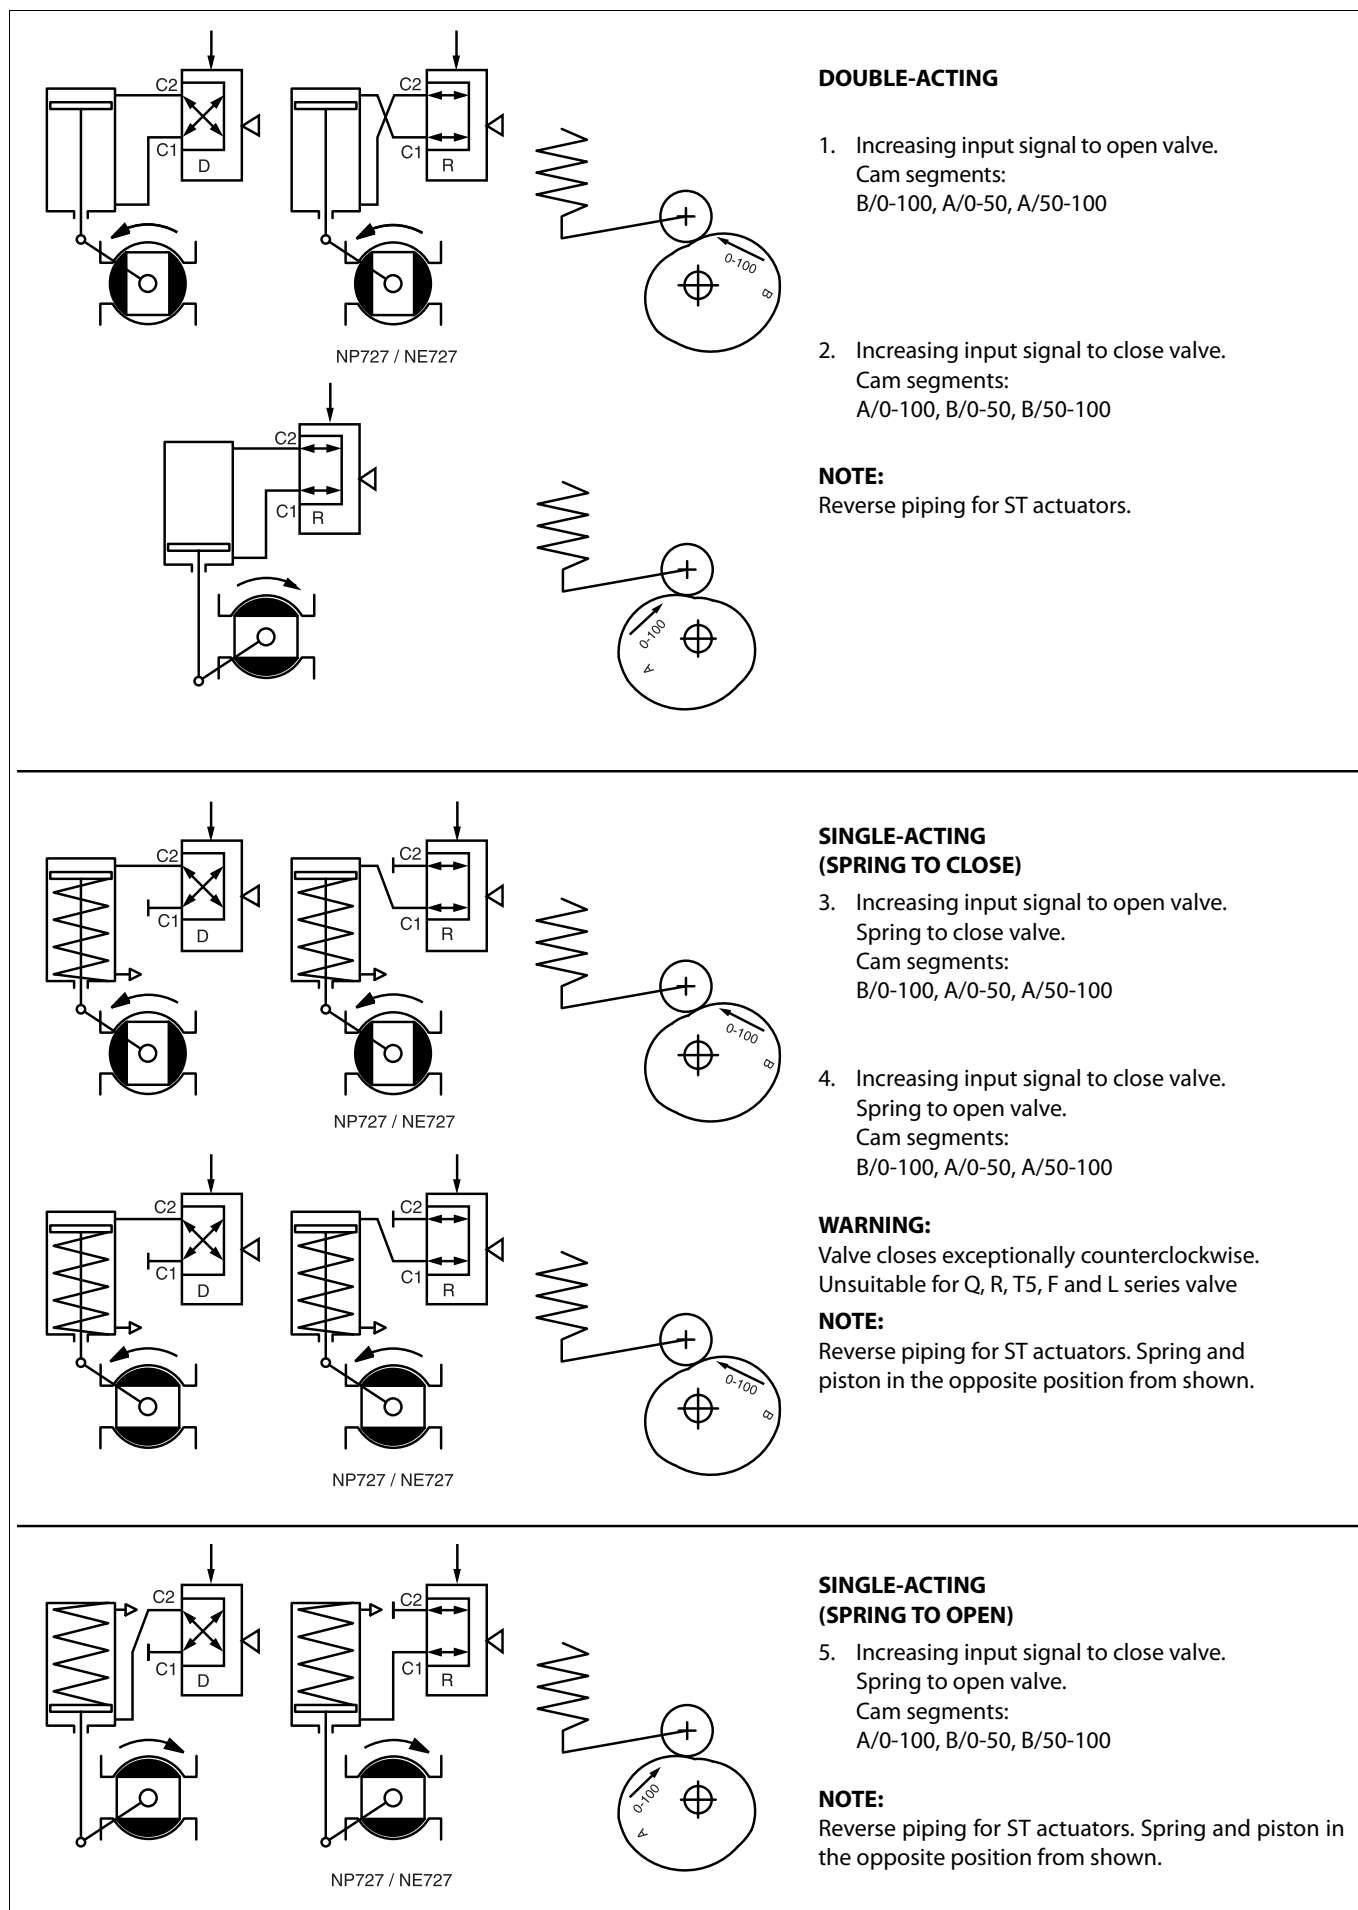

Fig. 5 Positioner actions
2. Install the pointer (only B\_U) parallel with the valve closure member and fasten the draught piece (2) with a screw (29) to the pointer cover (B\_U) or to the coupling (QP), as shown in Fig. 5. Secure the draught piece fastening screw with a sealant (e.g. Loctite) and tighten it properly.
3. Fasten the mounting bracket (1) to the positioner.
4. Fasten the mounting bracket (1) to the actuator.